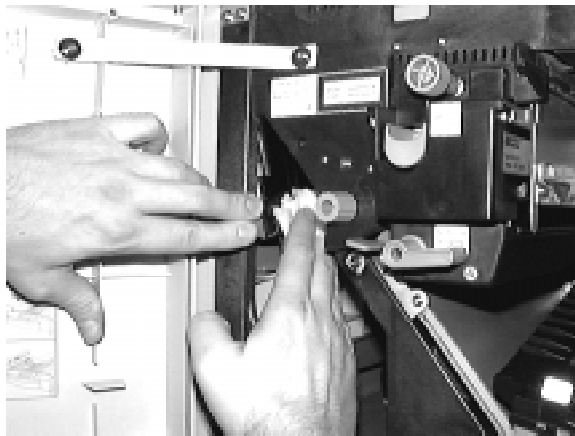

Figure 5-4 *Cleaning Reversing area*
2. Hold lever 5 to the left to open the reversing unit area. See Figure 5-4.